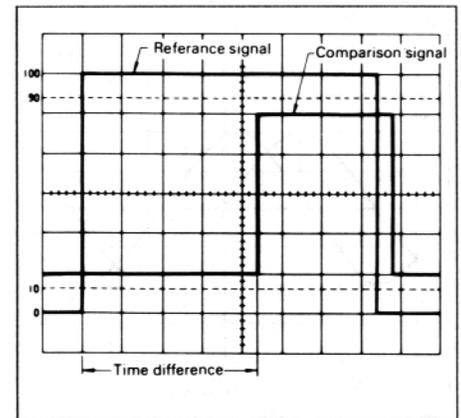

Fig. 34. Time difference measurement.
(Refer to Fig. 34)
3. Use the vertical position controls to superimpose both waveforms to intersect the center horizontal graduation line as shown in Fig. 34. Use the horizontal position control to set the reference signal coincident with one of the vertical graduation lines.
For the example shown in Fig. 34, the horizontal distance measured is 4.4 divisions. If the Time/Div control setting is 0.2 mS and X10 magnification is not used, the time difference is calculated as follows: